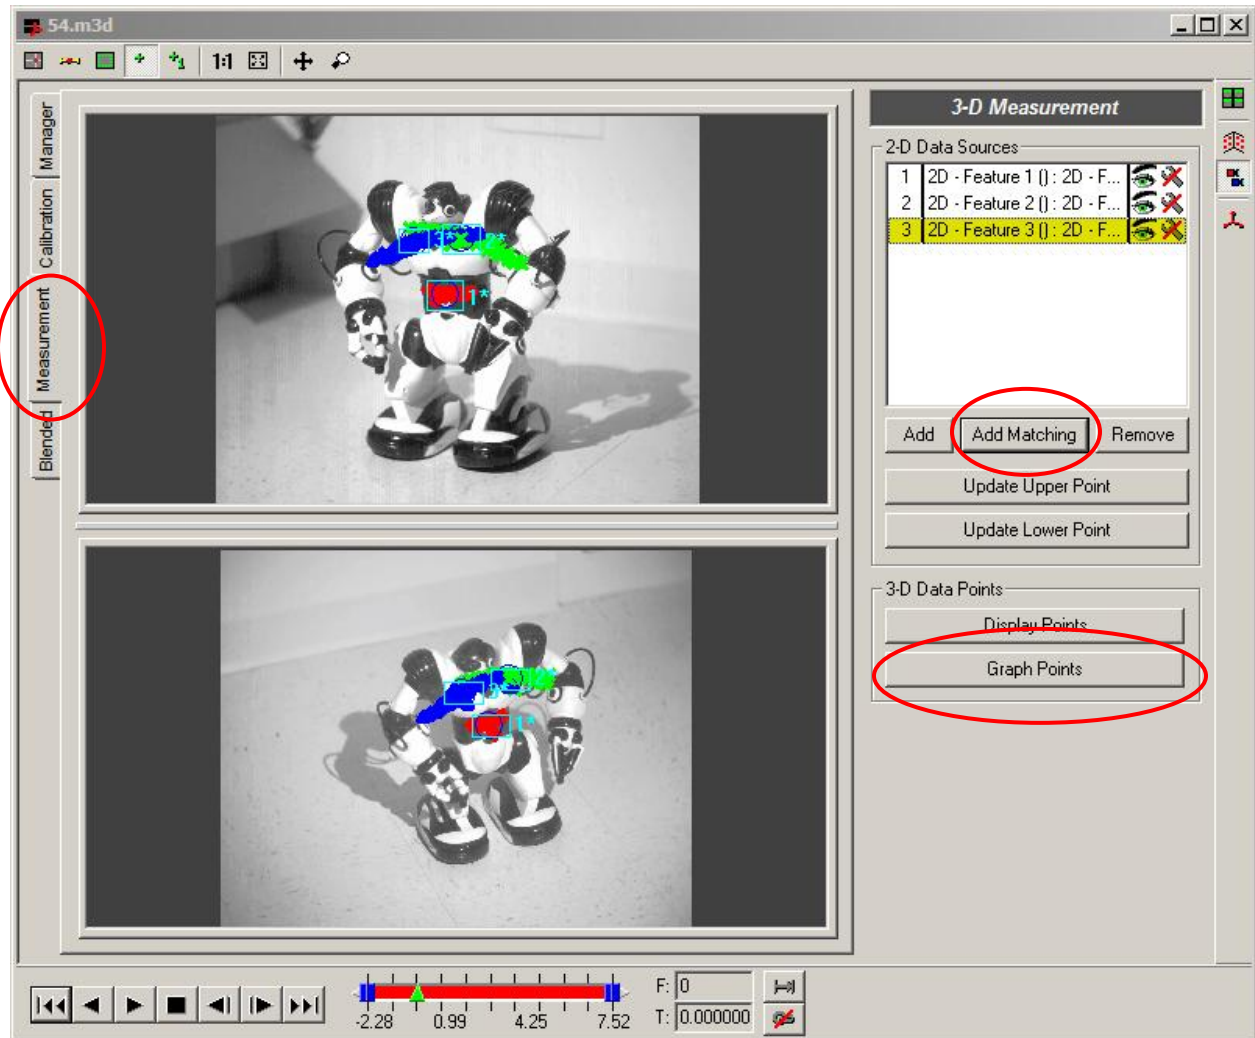

Figure 12. 3-D Measurement panel
- Click the **Add Matching** button (shown circled in Figure 12) to populate the 2-D Data Sources list with the tracked features from *Robot1.avi* and *Robot2.avi*.